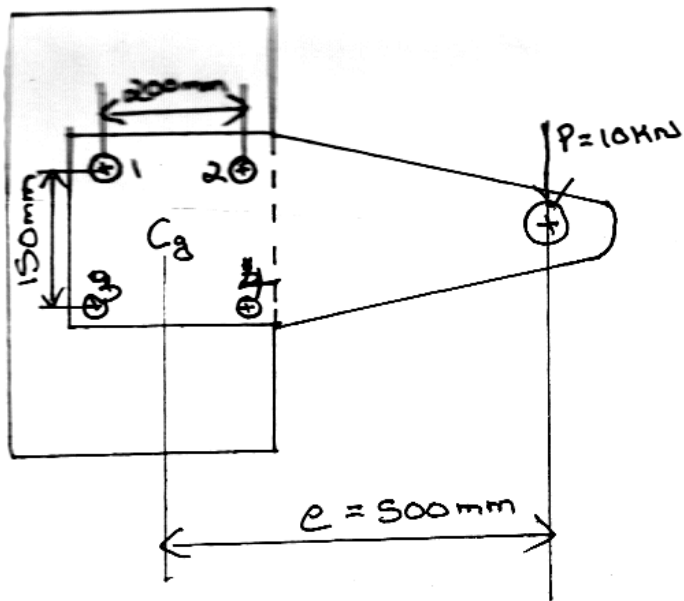

Fig Q4(a)
- 4 a. The structural connections shown in Fig. Q4(a) is subjected to an eccentric load P of 10 kN with an eccentricity of 500 mm. The centre distance between bolts at 1 and 3 is 150 mm and the centre distance between bolts at 1 and 2 is 200 mm. All bolts are identical. The bolts are made of plain carbon steel having yield strength in tension of 400 MPa and FOS is 2.5. Determine size of bolts. 12 L3 CO4 PO1,2,3